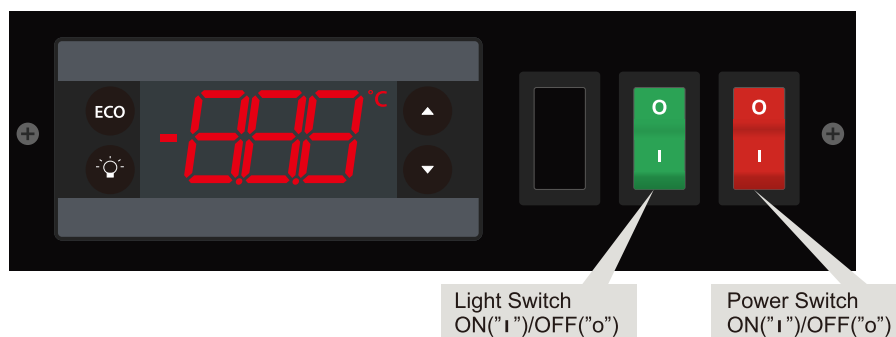

Figure 3: The control Panel
- Switch on the red power switch on the control panel of the appliance as indicated in Figure 3 below. There will be a short delay before the compressor motor starts up.
Step 1: Empty the appliance. Switch it off using the red power switch on the control panel (See Figure 3). Pull out the appliance from its enclosure and unplug from the mains power supply.